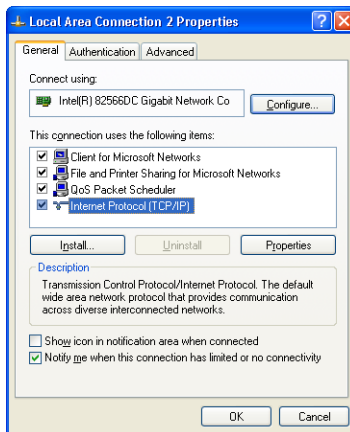

Figure 8: Local Area Connection Properties Window
5. Select the Internet Protocol (TCP/IP) and click the **Properties** Button (see Figure 8).